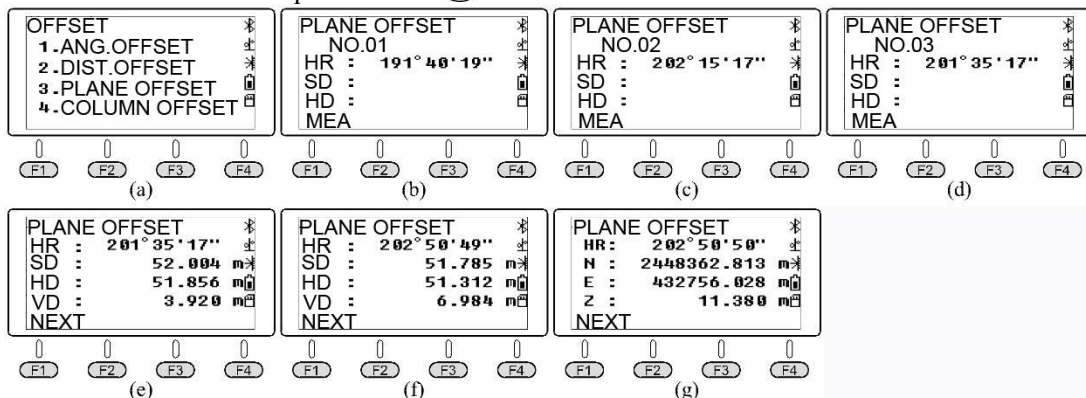

Figure 2-29 Operation steps to measure the coordinates of the points inconvenient to be measured through Reflecterless Distance by command "Plane Offset"
In the menu of Offset Measurement [Figure 2-29(a)], press ③ (Plane Offset). Aim at point P_1 and then press F1 (Measure). Please do the same as point P_1 for P_2 and P_3 by aiming at the points first and then press F1 (Measure), as shown in Figure 2-29(e). Turn the alignment part to make the telescope aim at point P , and the screen shows the distance from the surveying station to point P [Figure 2-29(f)]. The coordinates of the target point P are displayed by pressing CORD to switch screens [Figure 2-29(g)], and the distance of the target point P is displayed by pressing DIST to switch screens [Figure 2-29(f)]. Press F1 (Next) to continue the Plane Offset for the next point. Press ESC to exit the Plane Offset.
In the case shown in Figure 2-29, the reflector has been set to be "Reflectorless" before executing the command "Plane eccentricity". In advance, press **(F1)** (Instrument height) in the function menu on page P2 of Coordinate Measurement to set the target height to be 0.